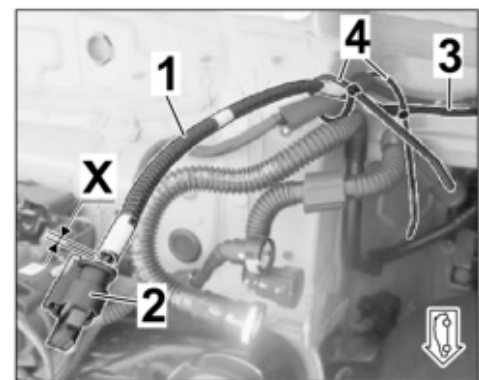

Figure 26
3.4.5 Fit corrugated hose 4.5 x 7.6 x X to each branch from a distance of approx. 30 mm from the connector (socket housing 4-pin) to the underbody. ⇒ *Figure 26*